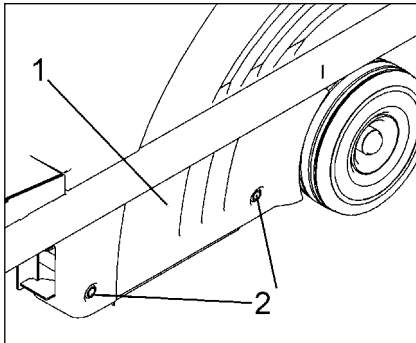

Fig.15
- Open locks (Fig. 15/2) by enclosed square spanner (counter-clockwise)
- Remove cover (Fig. 15/1)